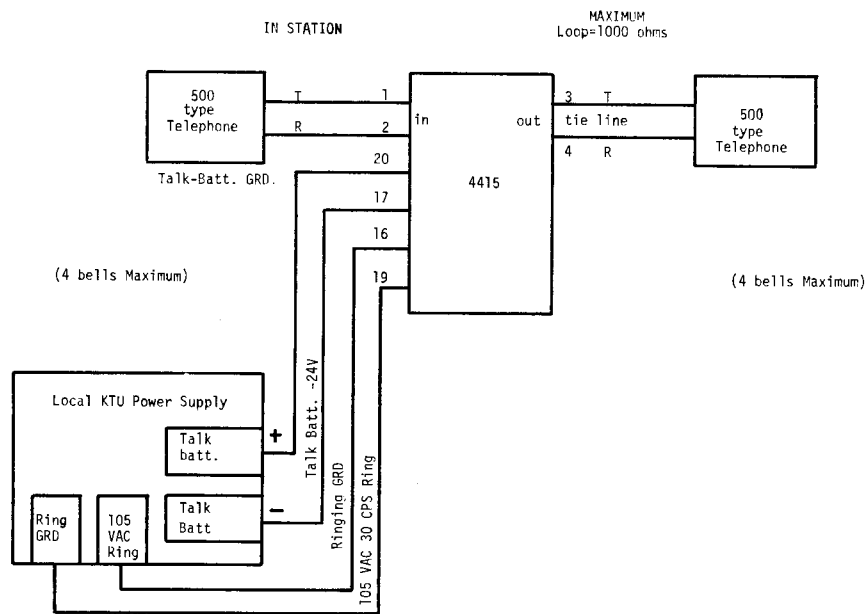

FIGURE 2
- a) Access to the terminal block is made by removing the cover, held on by a single fixing screw. A diagram showing the hook up information for two single line telephones is shown in figure 2. A diagram showing the hook up information for two key telephones is shown in Figure 3.